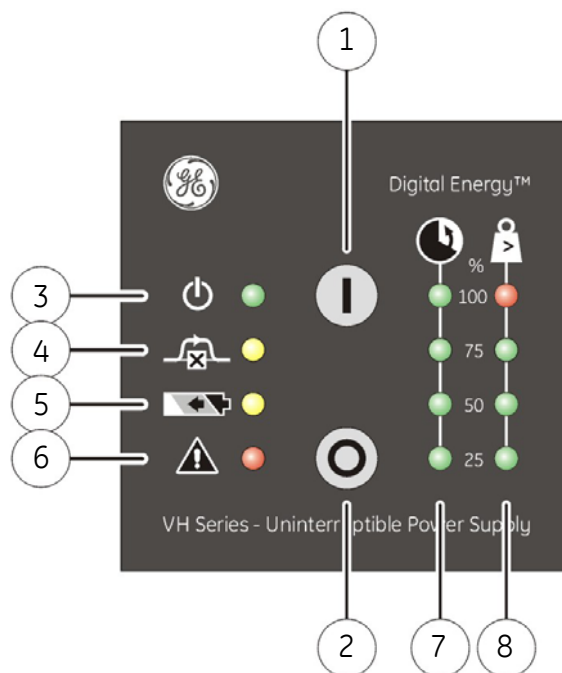

fig. 4.1: operating panel
press keypad 'I' (1, fig. 4.1) briefly; LED 'operation' (already slowly blinking) will at first blink faster and after a few seconds it will illuminate continuously, indicating that the unit has started up.
- 1 Press keypad 'O' (2, fig. 4.1) for 1 second. If the UPS is switched off the output will always be absent for a few seconds to ensure that the connected equipment is able to reboot.